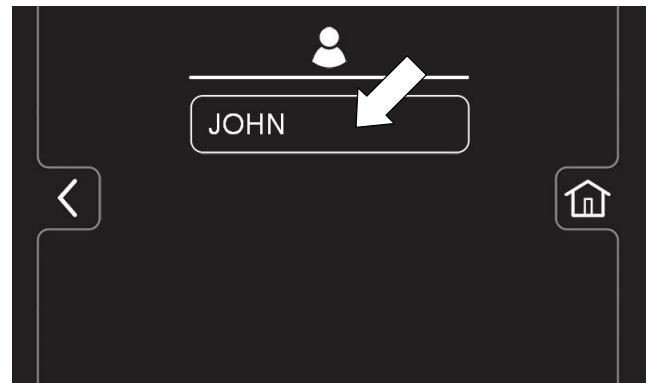

FIG. 196
7. Select a pre-assigned user profile. In this example, operator profile "JOHN" is selected (Figure 196). Turn the key off to apply the setting.